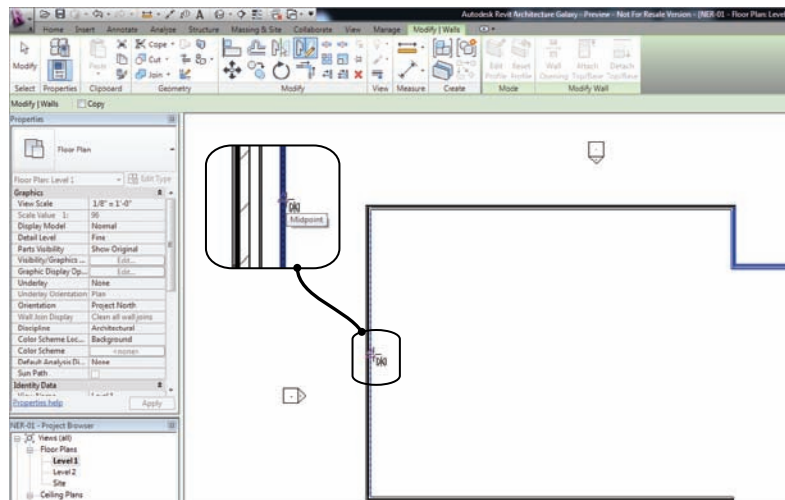

FIGURE 1.26 Revit has snaps similar to most CAD applications. In Revit, you'll only get snaps if you choose the draw icon from the Options bar during a command.
5. Hover your cursor over the inside face of the 80'-0" (24000mm)-long vertical wall until you reach the midpoint. Revit will display a triangular icon, indicating that you've found the midpoint of the wall (see Figure 1.26).